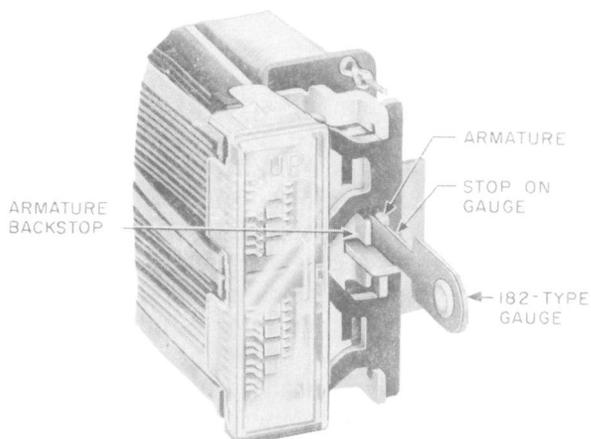

Fig. 10—182-Type Gauge Inserted Between Armature
(2) **AM-Type Relays:** Take care that the stop on the gauge rests against the armature as shown in Fig. 10. Make sure that the long axis of the gauge is in a horizontal position.
(3) Release the relay and note whether the contacts are open or closed as required. In case of doubt as to whether the contacts are open or closed, check with the orange stick as covered in (c).